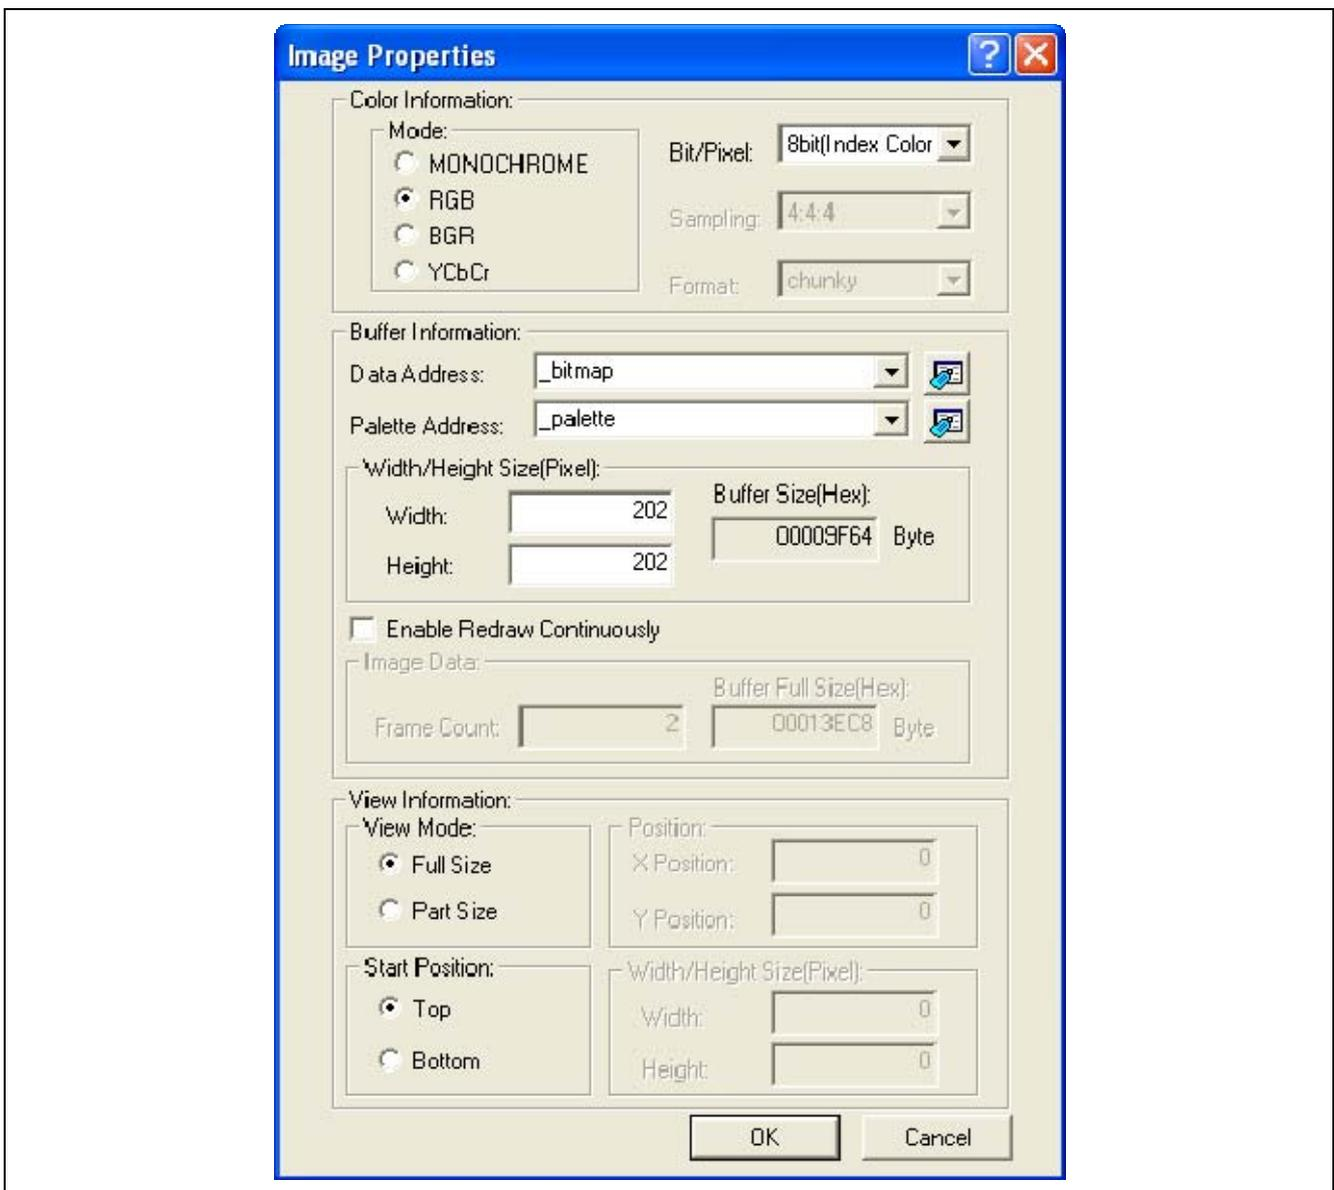

Figure 3 "Image Property" Dialog
2. The "Image Property" dialog is displayed (See figure 3).